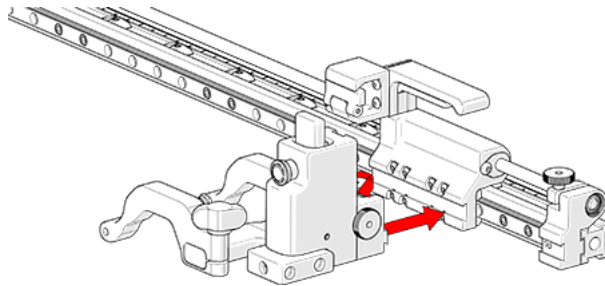

Figure 3-19 Mount probe holder to carrier
1. Loosen the probe holder adjustment knob and mount the heavy duty vertical probe holder dovetail jaw to the carrier (see Figure 3-19 on page 56).